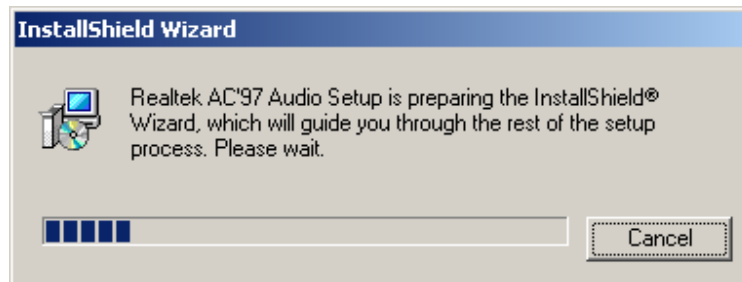

Figure 7-25: Preparing Setup Screen
Step 5: The **InstallShield Wizard** is prepared to guide the user through the rest of the process (**Figure 7-25**).